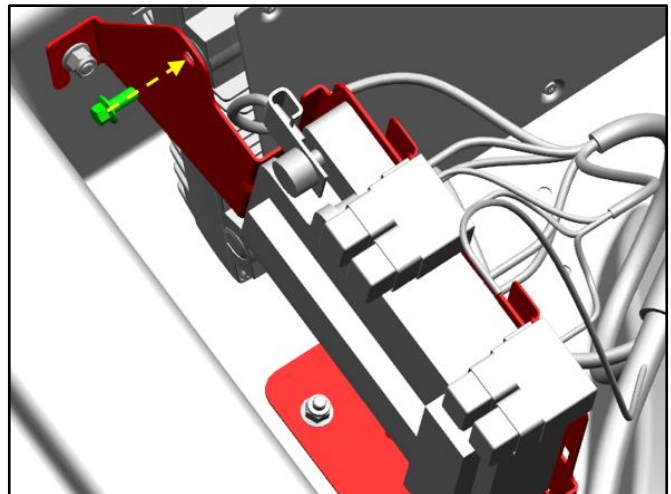

Figure 13
27. Install and torque the new bolt to attach the bracket for the rear fuse box to the audio amplifier to 10Nm. (Refer to Figure 13.)